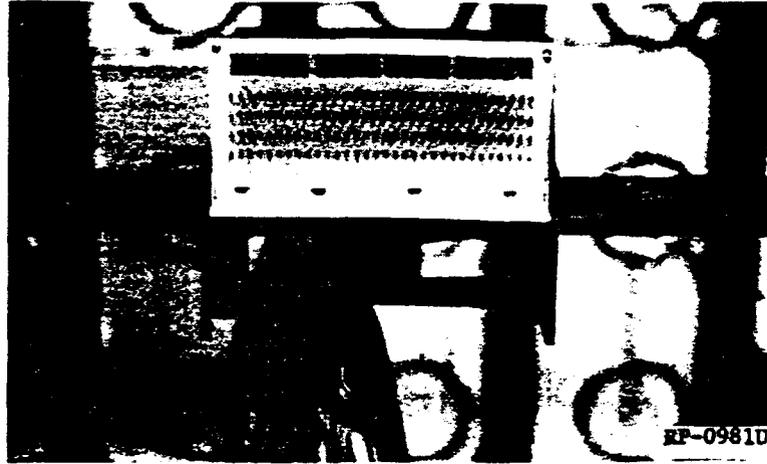

FIG. 1 LEADS ENTER LEFT OPENING
A. When the blocks are mounted in a horizontal position, feed the cable leads into the lower left (facing D.F.) cable entry opening. Be sure the leads extend out at least 22 inches beyond the lower back edge of the housing. See Figure 1.
Figures 1 through 10